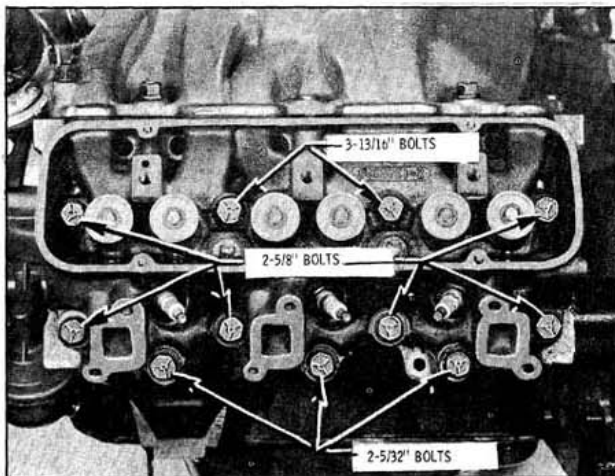

Fig. 3-10 Cylinder Head Bolt Installation
5. Clean and coat the head bolts with sealer. Install bolts as shown in Fig. 3-10.